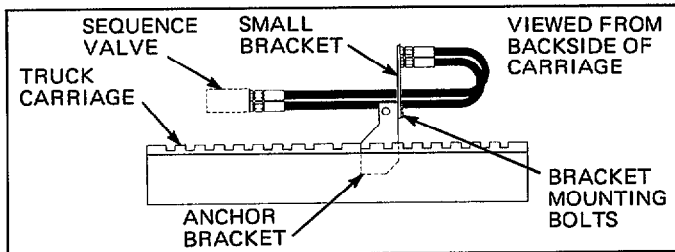

Figure 5. Attach Hoses to Small Bracket
- Assemble the small bracket, hoses, and straight thread fittings (in the bag accompanying the attachment). Bolt the small bracket to the end of the anchor bracket on the truck carriage. See Figure 5.